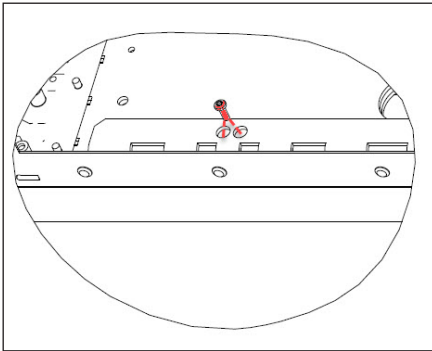

Figure 19: Y-Axis Seam Adjustment
2. Refer to **Figure 19**. Install #8 tap screws in the bottom perimeter at the locations where adjustment is required, according to the following specifications: